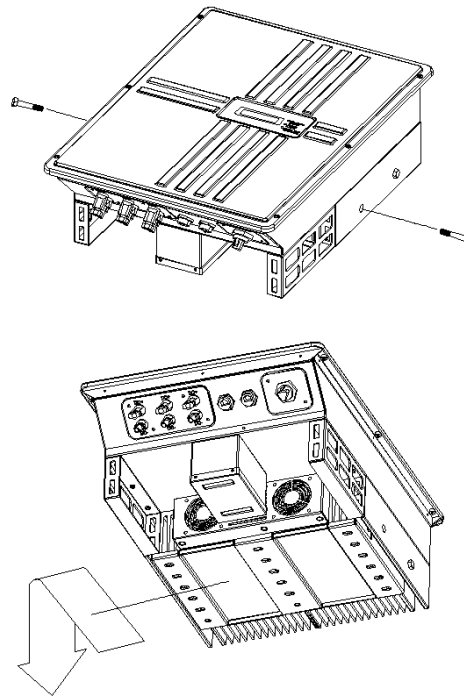

*Fig3.1.1 Clearances required for ISMG inverter installation*
- Leave at least 50 cm of free space above and below the inverter for better ventilation (see Figure 3.1.1).